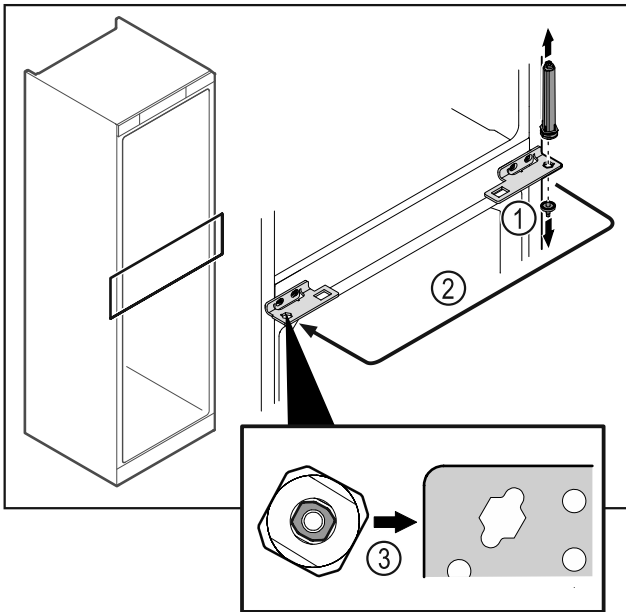

Fig. 48
- Unscrew the hinge pin Fig. 48 (1).
- Move the door closing system Fig. 48 (2).
- When inserting, make sure that the door closing system Fig. 48 (3) is correctly aligned.